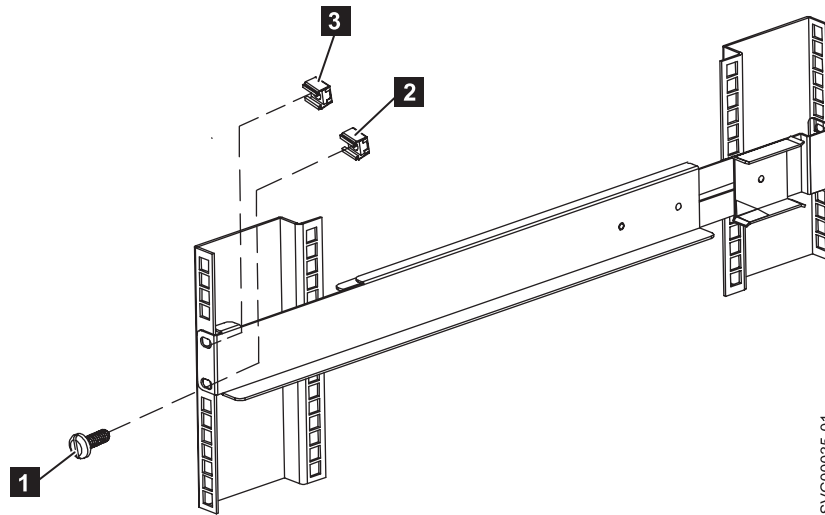

Figure 318. Securing the front rail on the 2145 UPS-1U
7. Install two clip nuts (**2** and **3** in Figure 318) to the front of the rack, then attach the rail using just one M6 x 10 screw in the bottom mounting hole **1** .